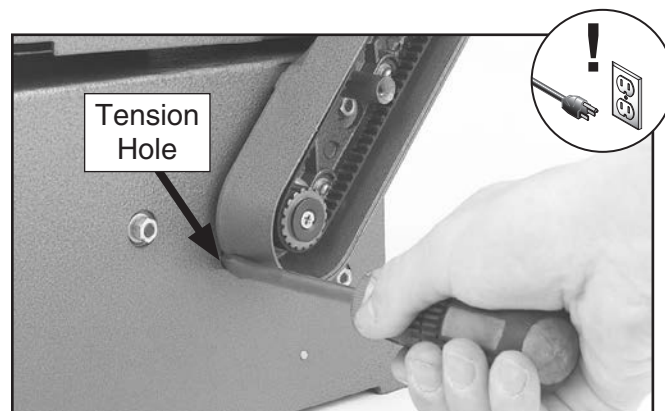

Figure 39. Tensioning drive belt.
5. Insert screwdriver into tension hole, as shown in **Figure 39**, and pull up against belt housing to tighten drive belt.